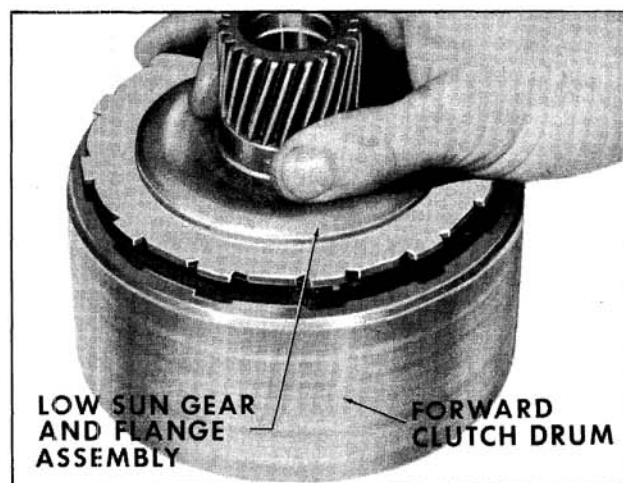

Fig. 6-429 Removing Low Sun Gear and Flange Assembly
2. Remove low sun gear and flange assembly. (Fig. 6-429)